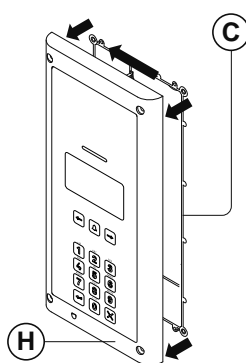

Fig. 53
7. Next close in the front support frame (H) and then pull it back from the flush box (C) while moving it slightly to the left, following the guide arrows, as shown in **Fig.53**;